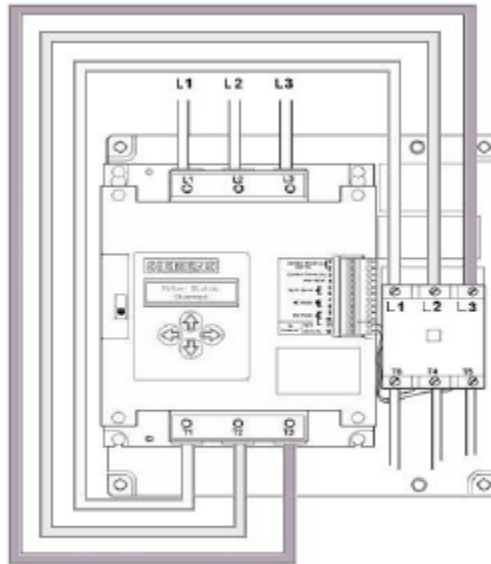

Figure 5: 3-Lead Line Wiring Configuration
- Figure 5: 3-Lead Line Wiring Configuration4